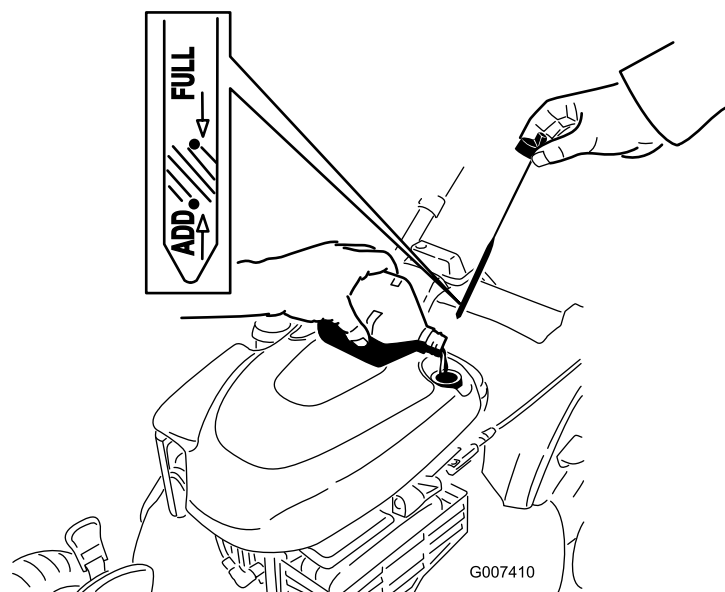

Figure 43
12. Remove the dipstick and read the oil level; refer to Figure 43.